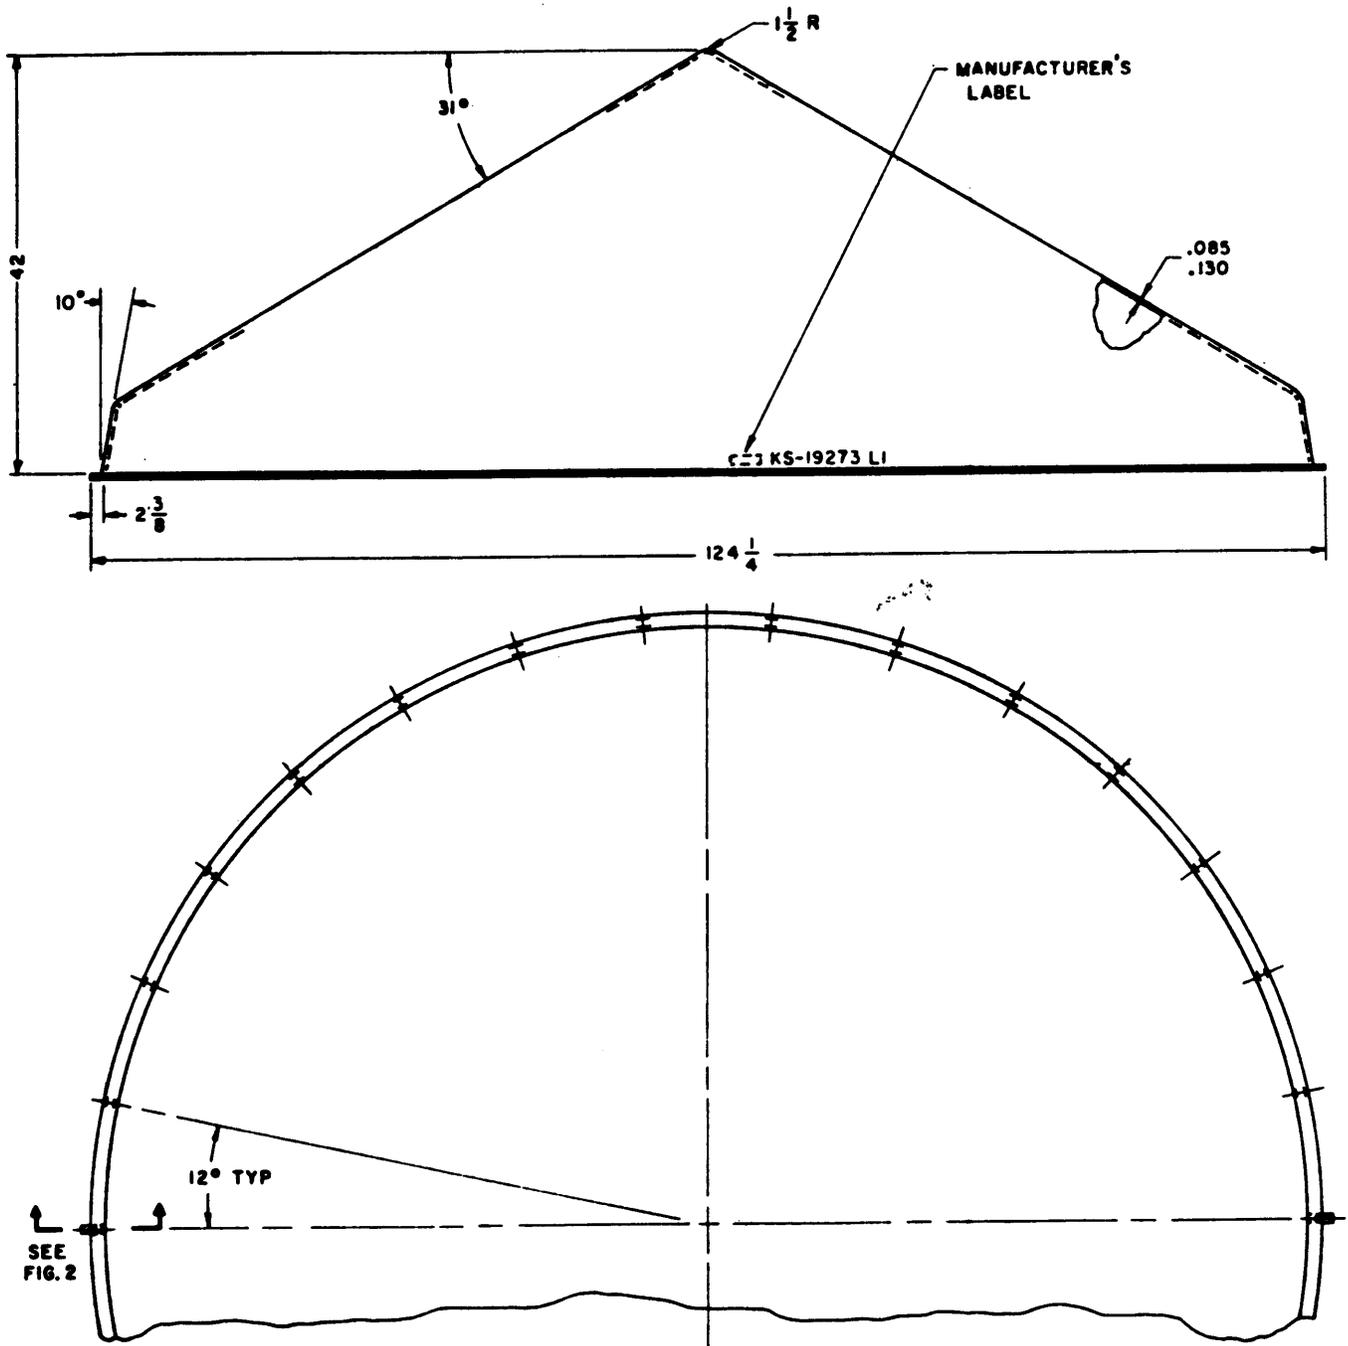

Fig. 1 - KS-19273 L1, 10-foot Radome
1.01 This section provides instructions for installing the KS-19273 L1, 10-foot, radome on parabolic antennas used in radio relay systems. The radome is primarily intended for use on standard 10-foot antennas, in periscopic installations, to provide protection against the elements. It may also be used on antennas in a direct radiator installation when conditions warrant, or on nonstandard 10-foot parabolic antennas when the physical dimensions of the radome and the antenna coincide. (Refer to Fig. 1.)